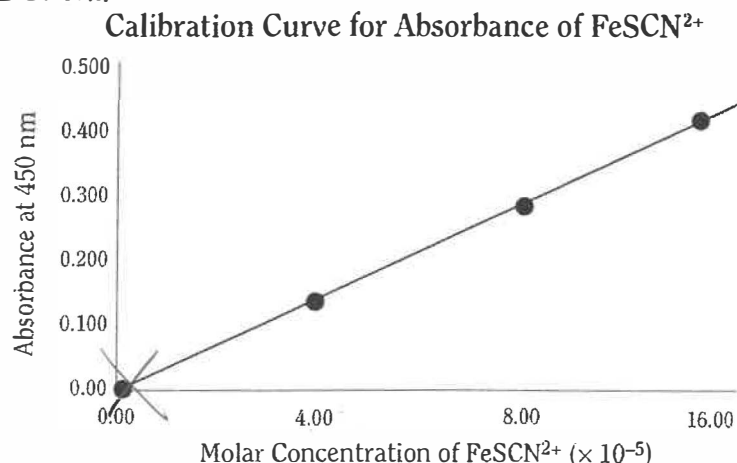

Figure 1. Sample Graph of Absorbance versus Concentration of  $\text{FeSCN}^{2+}$
1. On graph paper, plot molar concentration of  $\text{FeSCN}^{2+}$  versus absorbance as shown in Figure 1, and draw the best-fitting straight line through the data points. ~~Include the origin (zero absorbance for zero concentration) as a valid point.~~ IF THE DATA ARE OF GOOD QUALITY IT WILL NATURALLY PASS NEAR THE ORIGIN